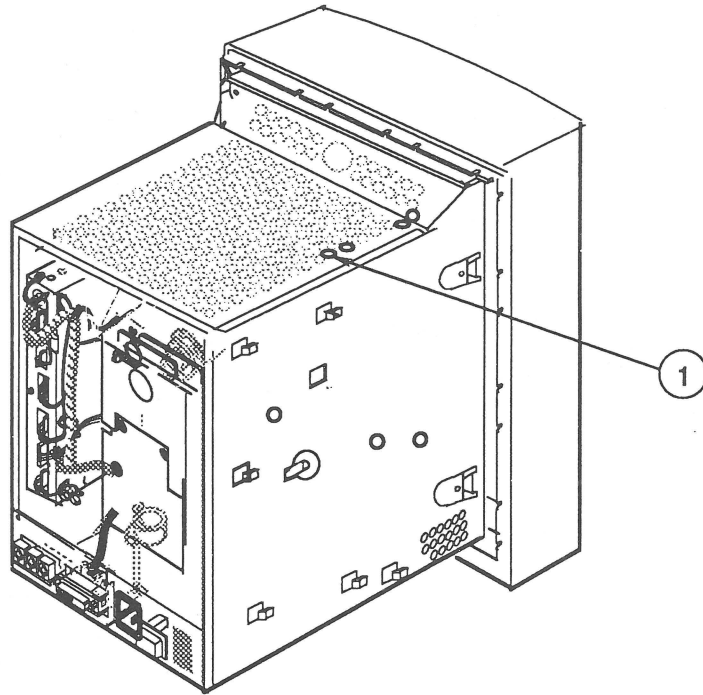

FIGURE 11
2. Make sure the SCREEN control (Figure 11, #1) is at maximum (full counterclockwise). If not, use the insulated screwdriver to turn it to maximum brightness.